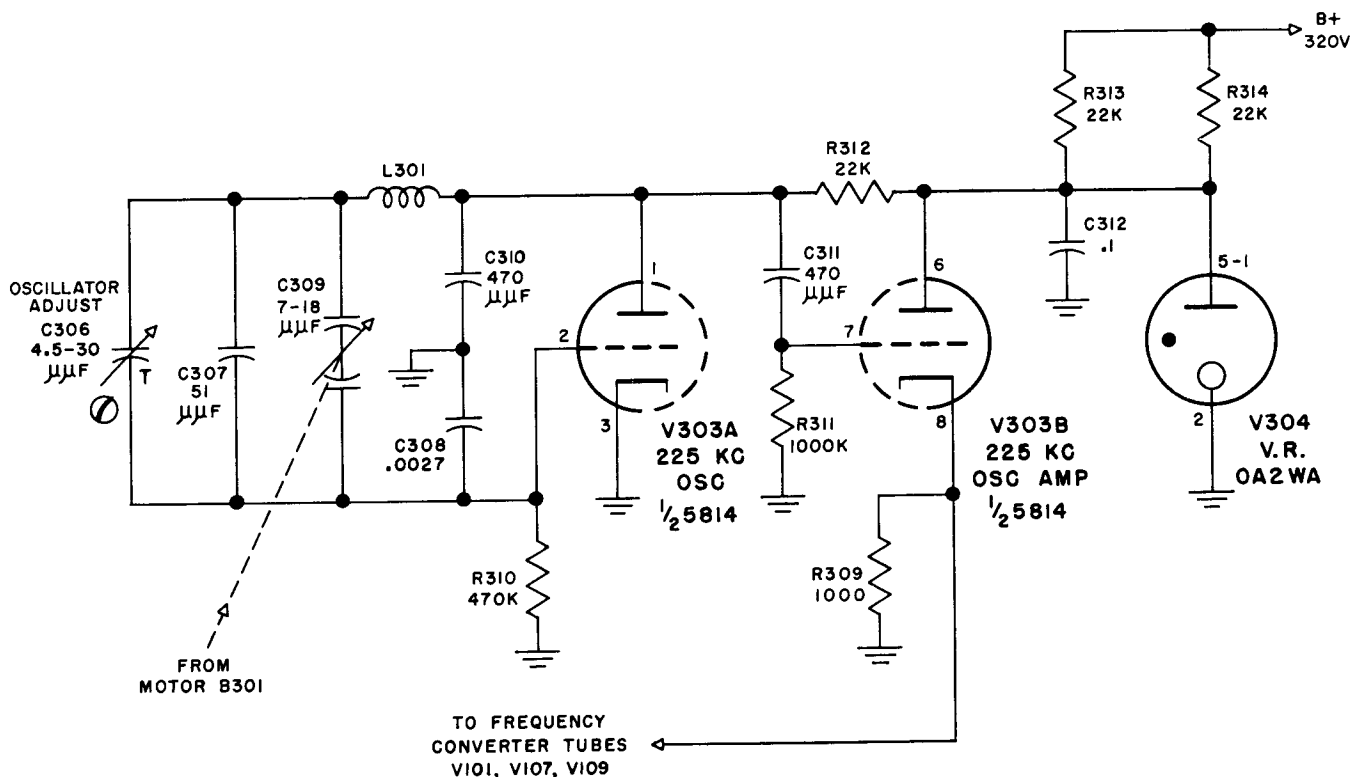

Figure 2-14. Tuning (225-Kc.) Oscillator V303A and Oscillator Amplifier V303B, Simplified Schematic Diagram
(7) TUNING (225-KC.) OSCILLATOR V303A AND AMPLIFIER V303B. (See Figure 2-14.)—Oscillator V303A utilizes one section of a 5814 twin triode. The oscillator tuning circuit is composed of coil L301, tuning capacitor C309 and capacitors C306, C307, C308 and C310 in a series tuned Colpitts circuit. The voltage drop across capacitors C308 and C310 establish feedback and phase reversal necessary for oscillator operation. Capacitor C307 has a negative temperature-capacitance characteristic to compensate for temperature changes in the oscillator circuit. Tuning Oscillator Adjust control C306 is the oscillator trimmer capacitor.